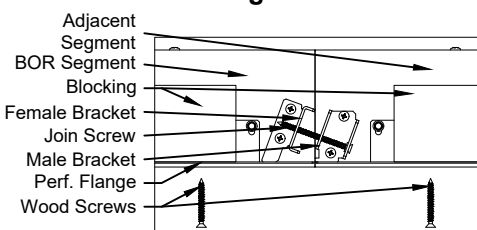

Fig. 8 Segment Joining.
- Use long screwdriver to tight joiner screws from both segments through perforated flange joiner screw access slots. Tight screws alternately from both sides to reach complete engagement and alignment (Fig. 8).